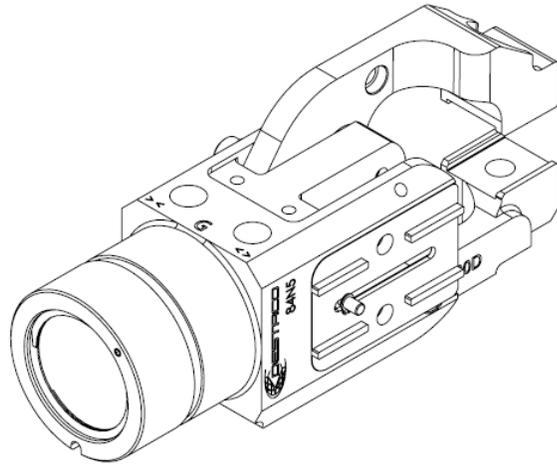

Fig.24
5. Insert Retaining Ring to the slot provided in Cam Follower (see Fig.24)